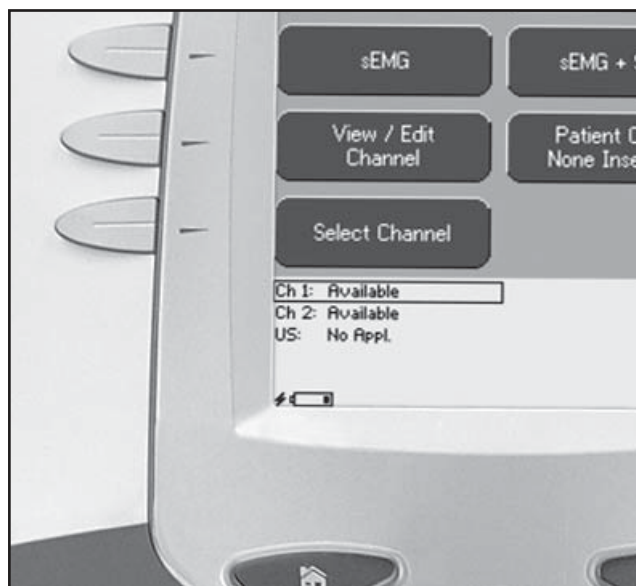

FIGURE 5.36
2. Turn system On and view the Home Screen. The Charge Level and Battery Charging icons should appear in the lower left corner of the Home Screen. See **Figure 5.36**.